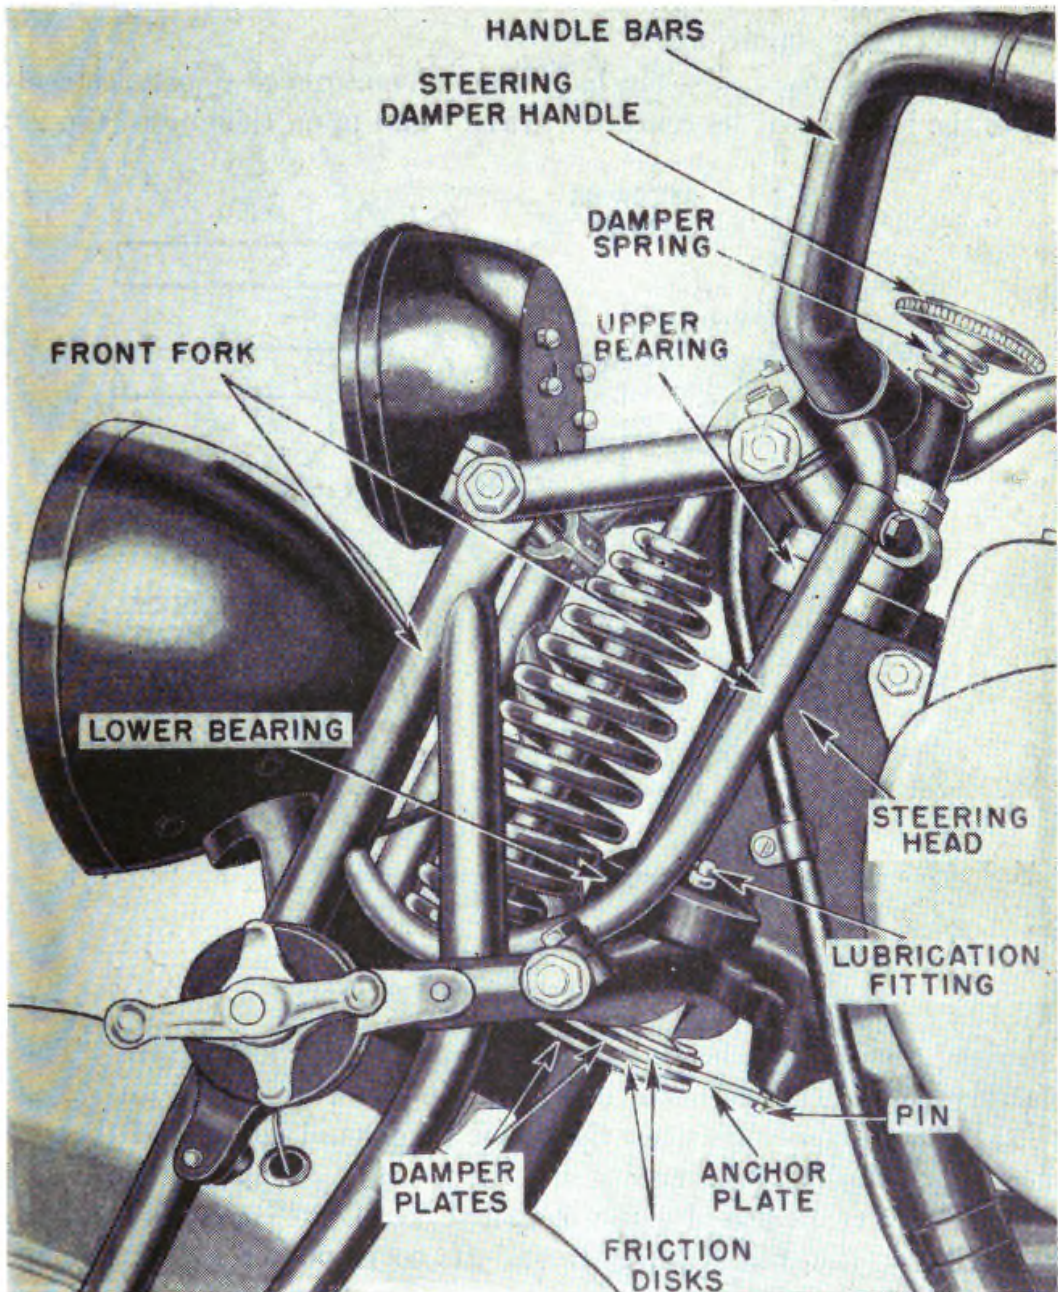

FIGURE 28.—Front fork and steering damper.
**37. Front suspension and steering.**—*a. Front fork.*—The front fork (fig. 28) is assembled to the steering head of the frame. With the handle bars, it forms the front suspension and the steering control